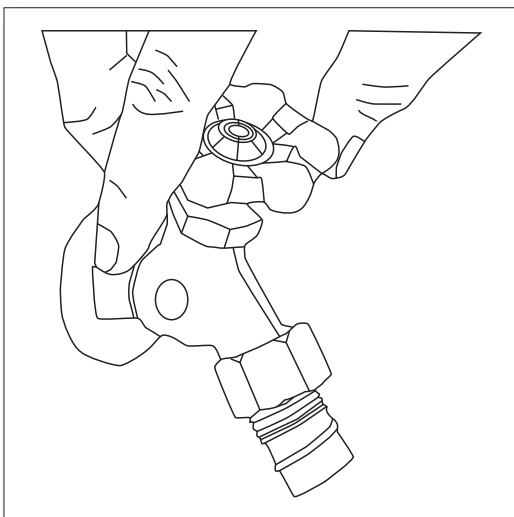

Fig. 19
***!Turn on the water supply at the faucet!* (Fig. 19)**